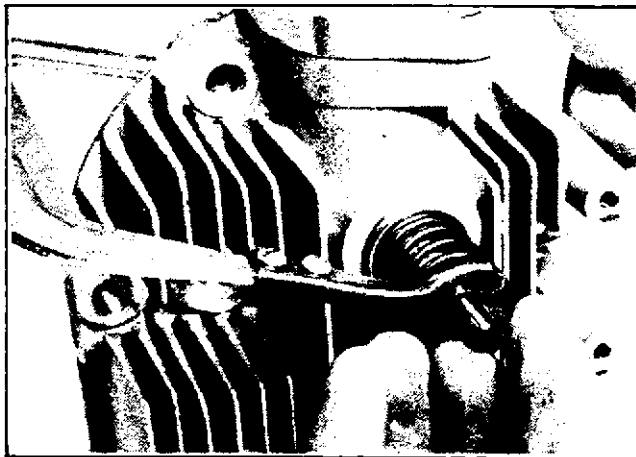

Figure 8-13. Installing Valve Springs
3. Using a valve spring compressor, compress the spring and install valve keepers (see Figure 8-13).